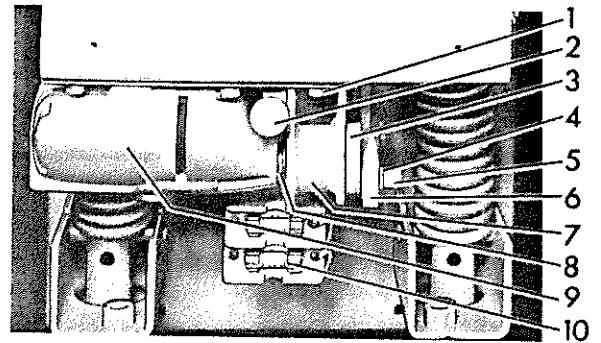

Figure 15. (8034471) Driving Elements
Refer to Figure 15. On breakers with a "C" or "K" suffix, a set of protecting fuses (10) are mounted on the front of the breaker. These fuses are the primary protective devices for the closing control circuit on those breakers that are used in metal-clad units designed for solenoid operated breakers.